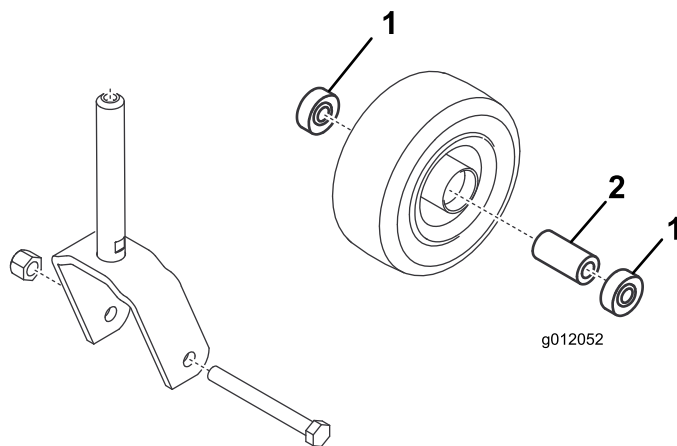

Figure 27
2. Remove outer bearing from wheel hub and allow inner bearing to fall out (Figure 27). Remove outer bearing from opposite side of wheel hub.
1. Remove locknut from capscrew holding castor wheel assembly in castor fork (Figure 27). Grasp castor wheel and slide capscrew out of fork.